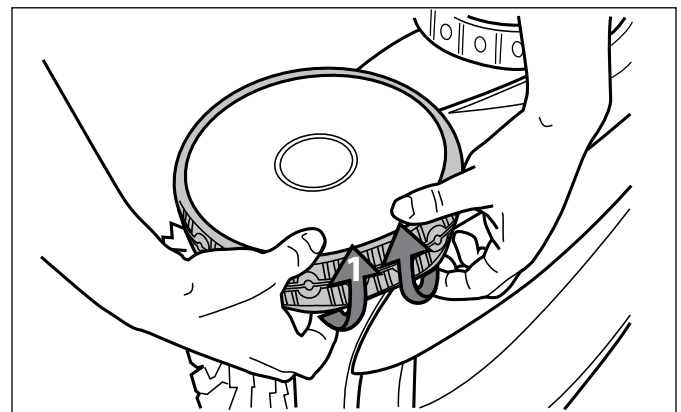

Figure 35. Pull the Old Tire Over the Wheel
- Pull on the inside of the old tire to remove the tire lip from the wheel (Figure 35).